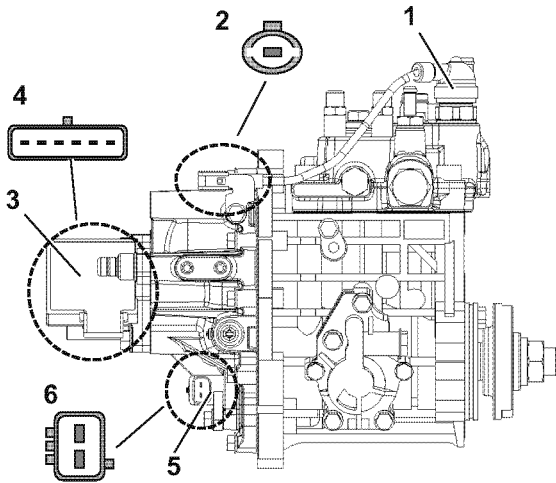

Figure 7-2
- When the cold start device is activated, you may notice a slight increase in the exhaust smoke of the engine during engine warm-up. Electronically controlled engines 3TNV84T-Z, 3TNV88-Z, 4TNV84T-Z, 4TNV94L-Z, 4TNV98-Z, 4TNV98-E, 4TNV98-A, and 4TNV98T-Z use a cold start device (CSD) that consists of a fuel injection pump complete with a solenoid valve (**Figure 7-2, (1)**).
Electronically controlled engines 3TNV84T-Z, 3TNV88-Z, 4TNV84T-Z, 4TNV94L-Z, 4TNV98-Z, 4TNV98-E, 4TNV98-A, and 4TNV98T-Z are equipped with an electronically controlled governor called “Eco Governor”. Combined with the rack actuator (Figure 7-2, (3)), engine speed sensor (Figure 7-2, (5)), and other parts, the electronically controlled governor communicates with the engine controller (E-ECU), whereby the engine speed and fuel injection rate are controlled.